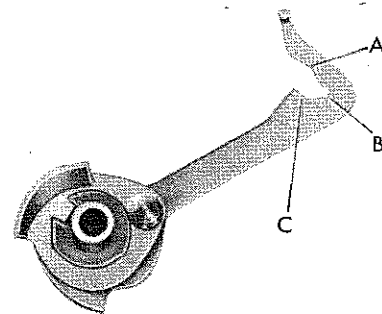

Figure 45—Latch with Main Drive Bushing and Disc Assembled with Stud
(4) **BLADE CONTROLLER LATCH.** (See figure 45.)—If the shutter blades rebound and leave a small opening when closing, the blade controller latch on the latch with main drive bushing and disc assembled with stud is not properly holding the projecting lever on the blade controller. Reshape the latch at point A to hold the lever of the blade controller tightly against the mechanism plate when the blades are closed. Be sure the opening in the latch is not closed too far. The lever on the blade controller should fit freely into the end of the groove at point B. If the lever binds at this point, the edge of the latch should be filed slightly at point C.